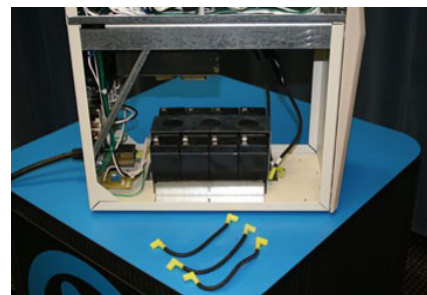

Fig 9.
9. Finally, remove the jumper wires between each battery. Fig 9.